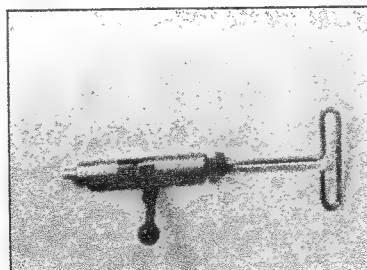

Figure 15
9. Move bolt handle to uncocked position. (Fig. 15)